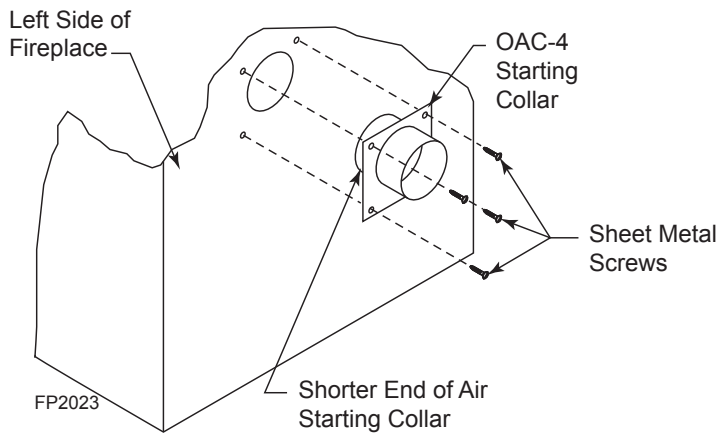

Figure 11 - Attach Outside Air Starting Collar to Left Side of Fireplace
2. Place starting collar (4") into hole on left side of fireplace. Fireplace shortest side of air starting collar through fireplace outer wrap. Fasten starting collar in place with four (4) sheet metal screws provided. *Figure 11*